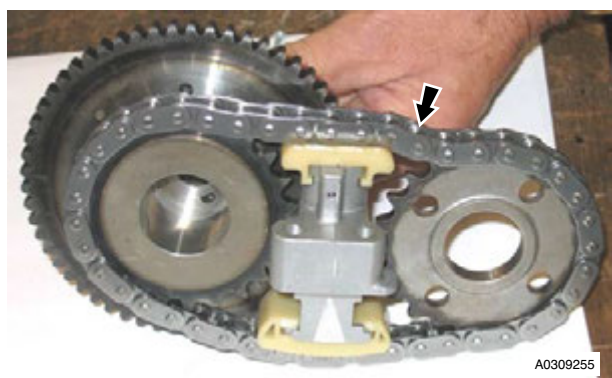

Figure 4
5. Remove the secondary timing chain and tensioner from the sprockets (refer to Figure 4).